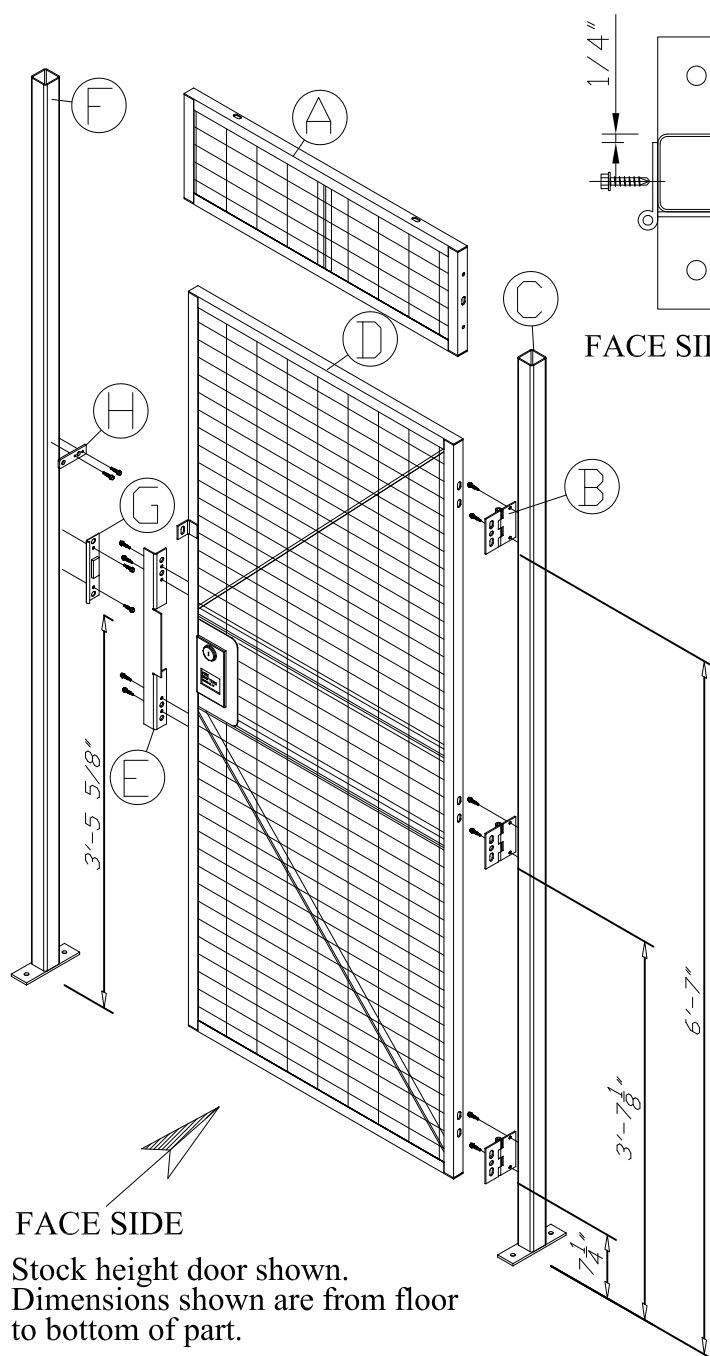

Fig. 2
1. Install transom panel (A) at top of door opening, check opening width at floor, and anchor posts to floor. Check that posts are plumb and opening is square.
2. Attach hinges (B) to door post (C) using two self drilling screws per hinge.
- a. Note hinge placement offset detailed in Fig 1 and install tip in Fig. 2.
3. Attach door panel (D) to hinges with two 3/8" x 1" bolts and nuts.